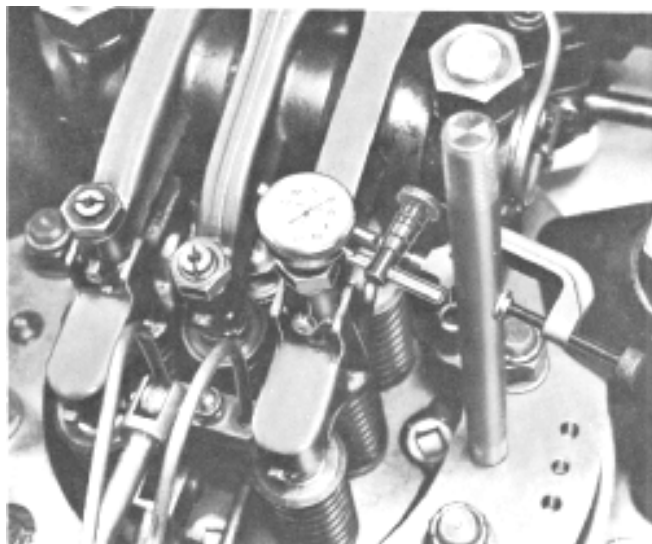

Fig. 15-7 -- Timing Exhaust Valves
To check timing, place a dial indicator on the rocker arm adjusting screw as shown in Fig. 15-7. Valve end of rocker arm must be in its highest position, so that
1. Apply dial indicator to the rocker arm adjusting screw, Fig. 15-7, as done in "Checking Exhaust Valve Timing."